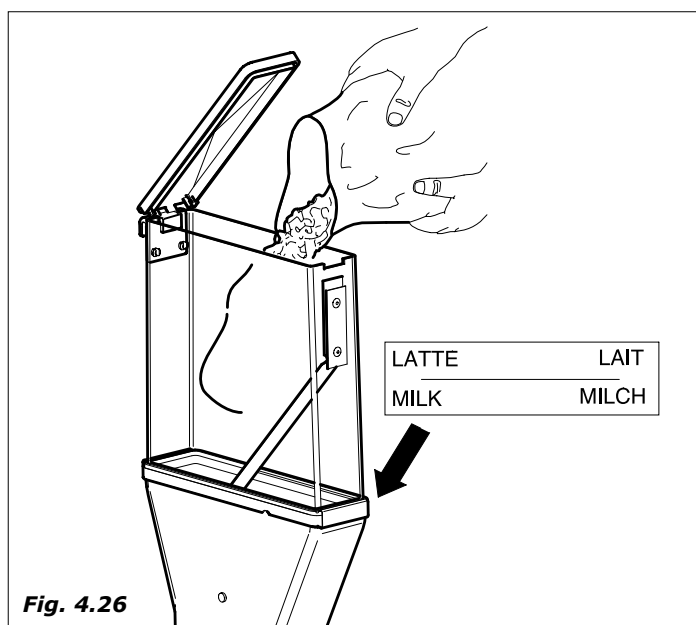

Fig. 4.26
- remove the covers of each container and load the product according to the product indicated on the label (Fig.4.26)